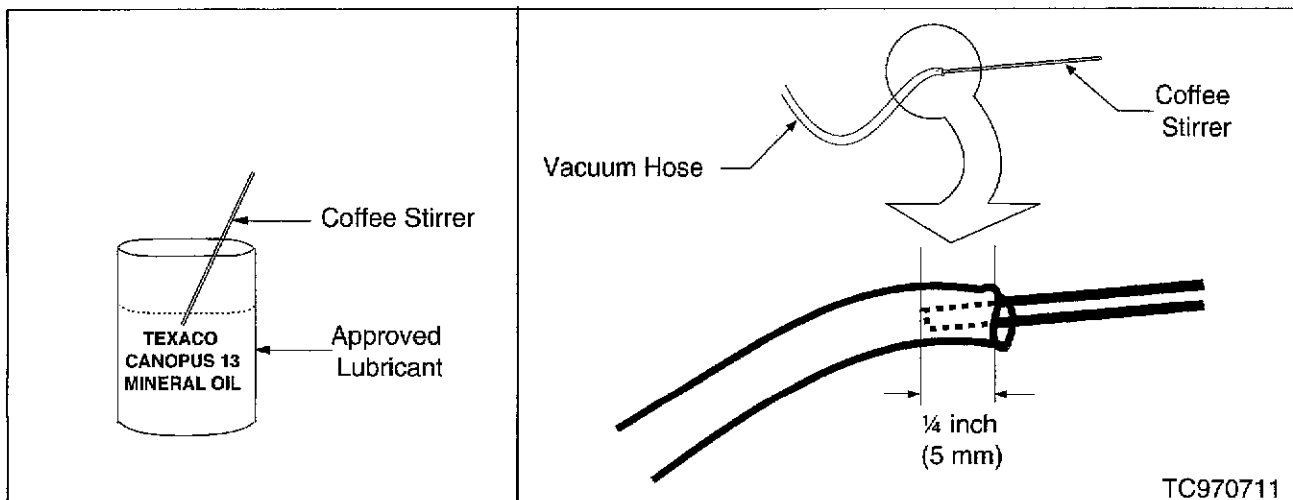

Figure 1
2. Gently insert the coated stirrer slightly inside the tip of the vacuum hose (see Figure 1).